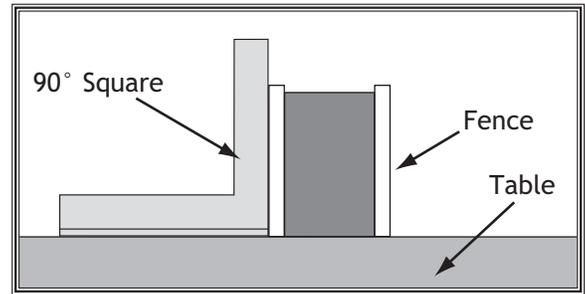

Figure 120. Checking if fence is square to table.
8. Place square on table and against face of fence, as shown in **Figure 120**, to check if fence is square to table.